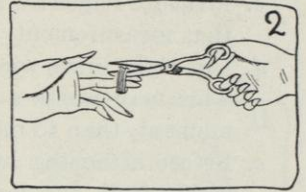

FIG. 2.
- Cut directly across (see Figure 2).